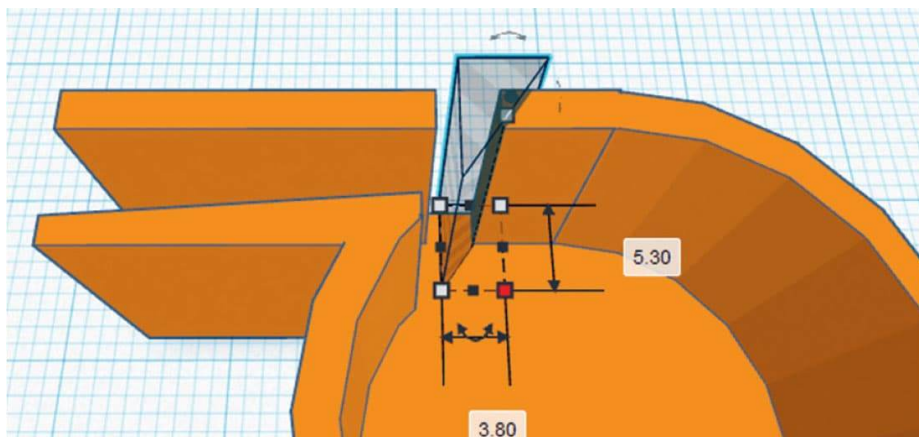

FIG. 6: Taper the edge of the sound hole using a wedge hole.
5. Now we need to taper the edge of the sound hole that is further away from the mouthpiece. Use the **Wedge** tool to create a wedge hole as shown in fig. 6. It will have to be rotated along a couple of axes to orient it as shown in the image. It should be 3.8 mm at the broader end. Make sure to align it so the narrower end meets the whistle body at a single edge as shown in fig. 6. Merge the wedge hole with the whistle body.